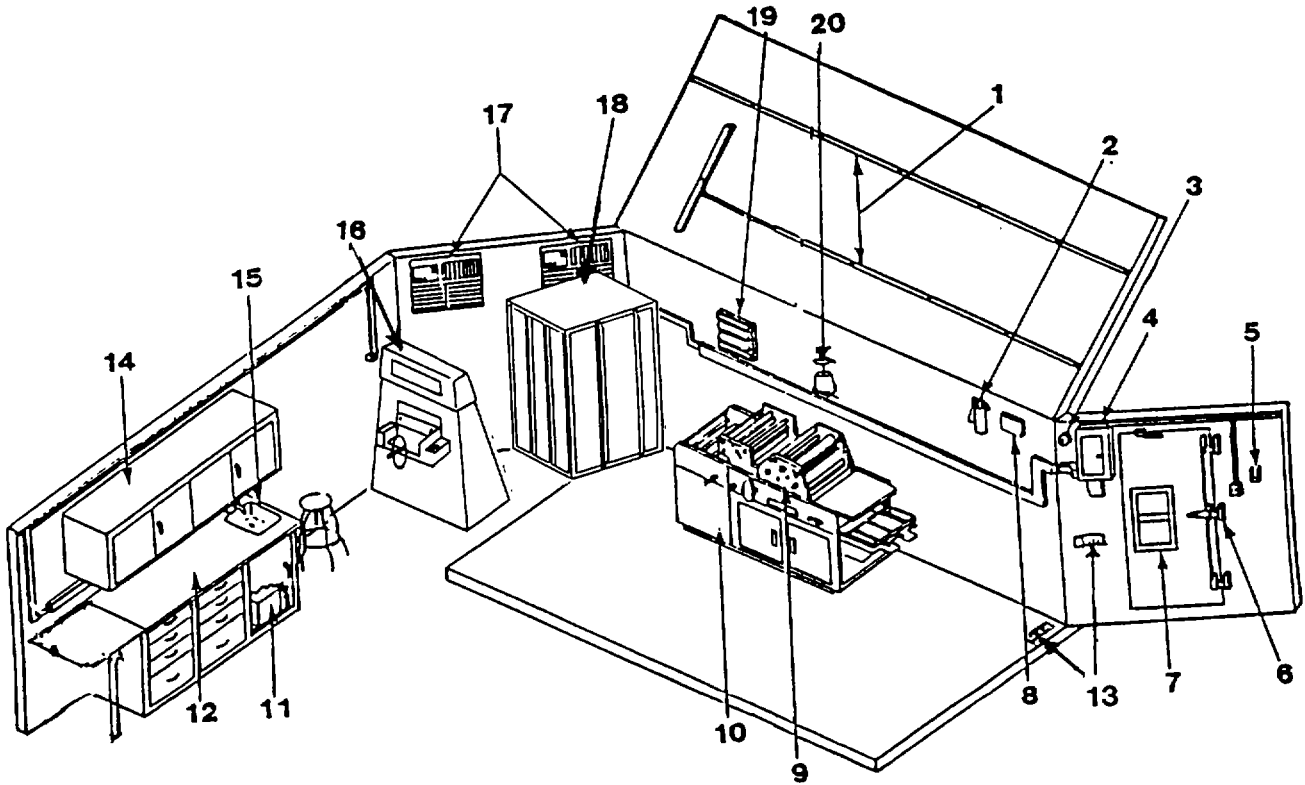

Figure 1-3. Location and Description of Major Components, Press Shelter, Interior
b. Press Shelter Interior. Refer to Figure 1-3 for location of major components.
- (1) Lamp Assemblies. Provides fluorescent light for shelter.
- (2) Fire Extinguisher. A class 2-B dry chemical type extinguisher suitable for all types of fire, with the exception of LO (liquid oxygen) generating equipment.
- (3) Blackout Warning Buzzer. Along with exterior blackout switch provides a blackout warning system.
- (4) Main Power Service Box. Contains circuit breakers and distribution terminals for shelter electrical system.
- (5) Telephone Bracket. Bracket used to hold field telephone.
- (6) Door Blackout Pin. Provides a means of securing door during blackout periods to prevent the door from being inadvertently opened.
- (7) Fresh Air Filter. A foam-type air filter permits filtered outside air to enter shelter when door is closed and exterior weather cover is open.
- (8) First Aid Kit. A general purpose 12 unit first aid kit.
- (9) Color Press. Attaches to and is used in conjunction with offset duplicating machine to permit printing of two colors in one operation.
- (10) Duplicating Machine and Stacker. An offset process type duplicating machine whereby the image on the master receives moisture from the dampener and ink from the inker for every revolution of the master cylinder. Stacker used to jog and stack large amounts of paper copy.